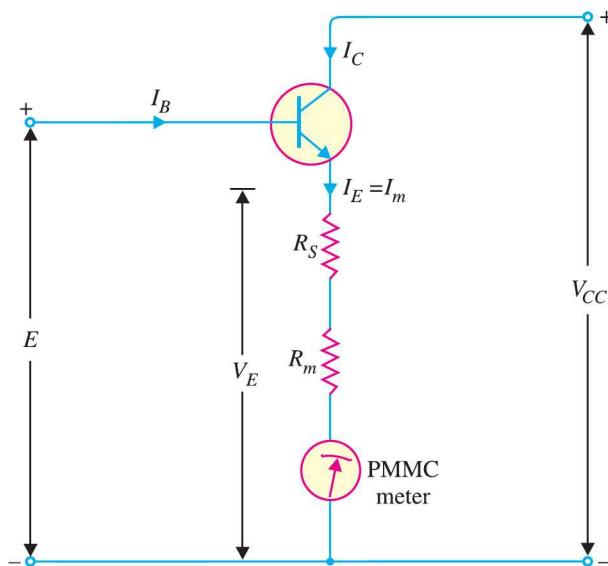

Fig. 22.17
Since vacuum tubes have become obsolete, these have been replaced by transistors and other semiconductor devices. Fig. 22.17 shows the circuit of an emitter-follower voltmeter. The voltage  $E$  to be measured is applied between base and emitter. A permanent-magnet moving coil (PMMC) instrument and a multiplier resistor  $R_s$  are connected in series with the transistor emitter. The circuit measures the voltage quite accurately because the emitter follower offers high input resistance to the voltage being measured and provides a low output resistance to drive current through the coil of PMMC meter.
**Example 22.6.** The emitter follower circuit shown in Fig. 22.17 has  $V_{CC} = 12\text{ V}$ ;  $R_m = 1\text{k}\Omega$  and a 2 mA meter. If transistor  $\beta = 80$ , calculate (i) the suitable resistance for  $R_S$  to give full-scale deflection when  $E = 5\text{ V}$  (ii) the voltmeter input resistance.
**Example 22.7.** The emitter-follower voltmeter circuit in Fig. 22.17 has  $V_{CC} = 20\text{ V}$ ,  $R_S + R_m = 9.3\text{ k}\Omega$ ,  $I_m = 1\text{ mA}$  and transistor  $\beta = 100$ .